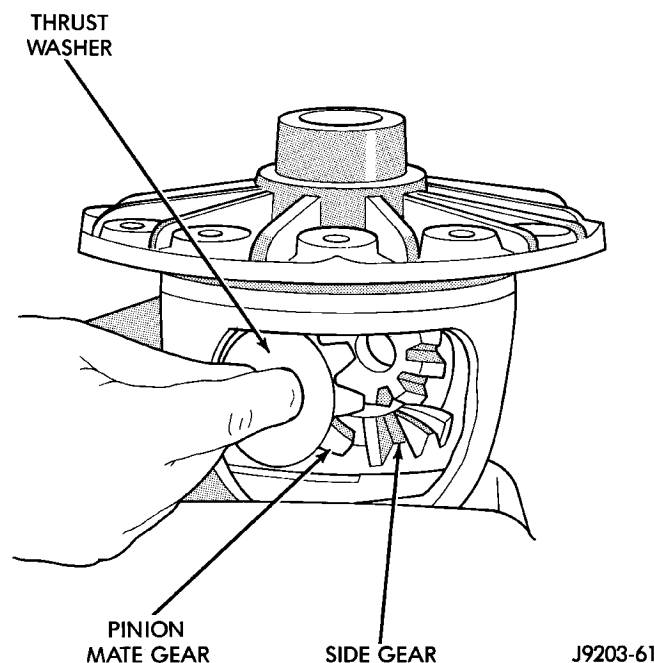

Fig. 56 Pinion Mate Gear Removal
- (2) Remove pinion gear mate shaft.
- (3) Rotate the differential side gears and remove the pinion mate gears and thrust washers (Fig. 56).